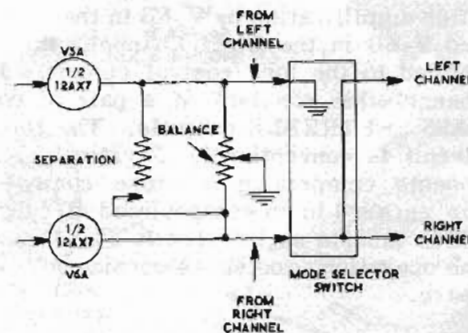

Figure 2D
**MONO RIGHT** position: See Figure 2D. In this position any input to the Right Channel may be fed simultaneously to both the Right and Left Channel outputs.